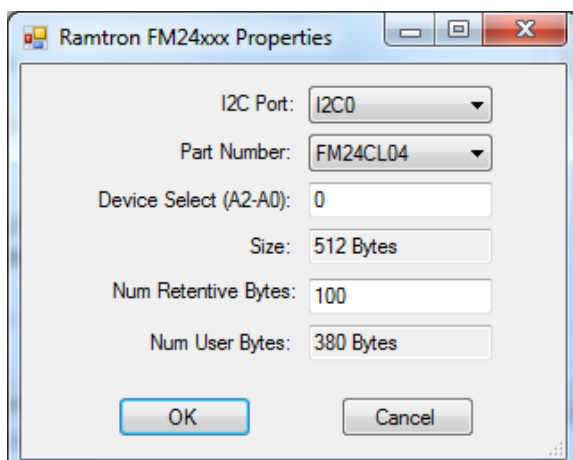

Figure 2-40 - Ramtron FM24xxx Properties
4. Enter the number of retentive bytes to use in the target in the *Num Retentive Bytes* box. The maximum available to use is 480 bytes (defaulted to 100 bytes). Refer to Figure 2-40. Any bytes not configured for retentive may be used as EEPROM memory bytes. (displayed as Num User Bytes).